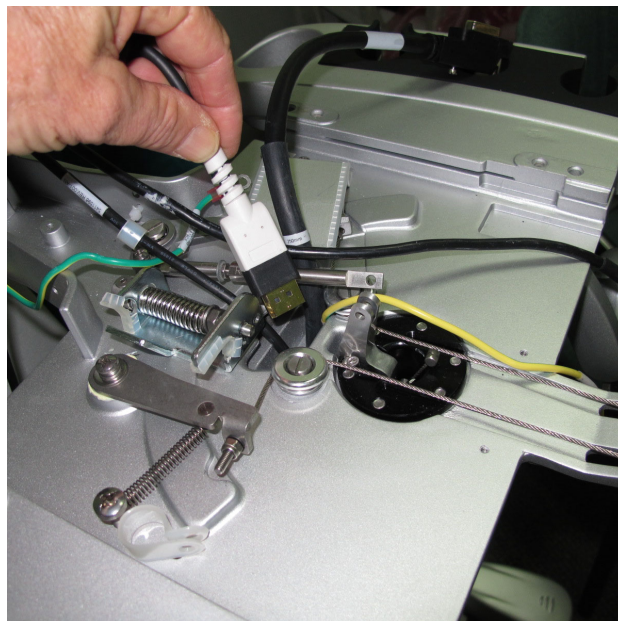

Figure 8-125 White OPIO to BIF Cable
- 5.) Thread the white OPIO to BIF cable through the OPIO platform aperture a in Figure 8-125 below.